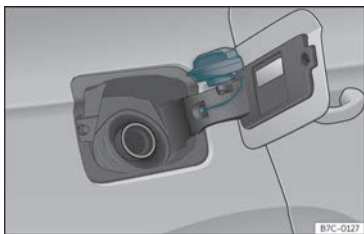

Fig. 252 Fuel tank flap with tank cap attached.
- Place it in the space on the hinge of the open flap >>> **Fig. 252**.